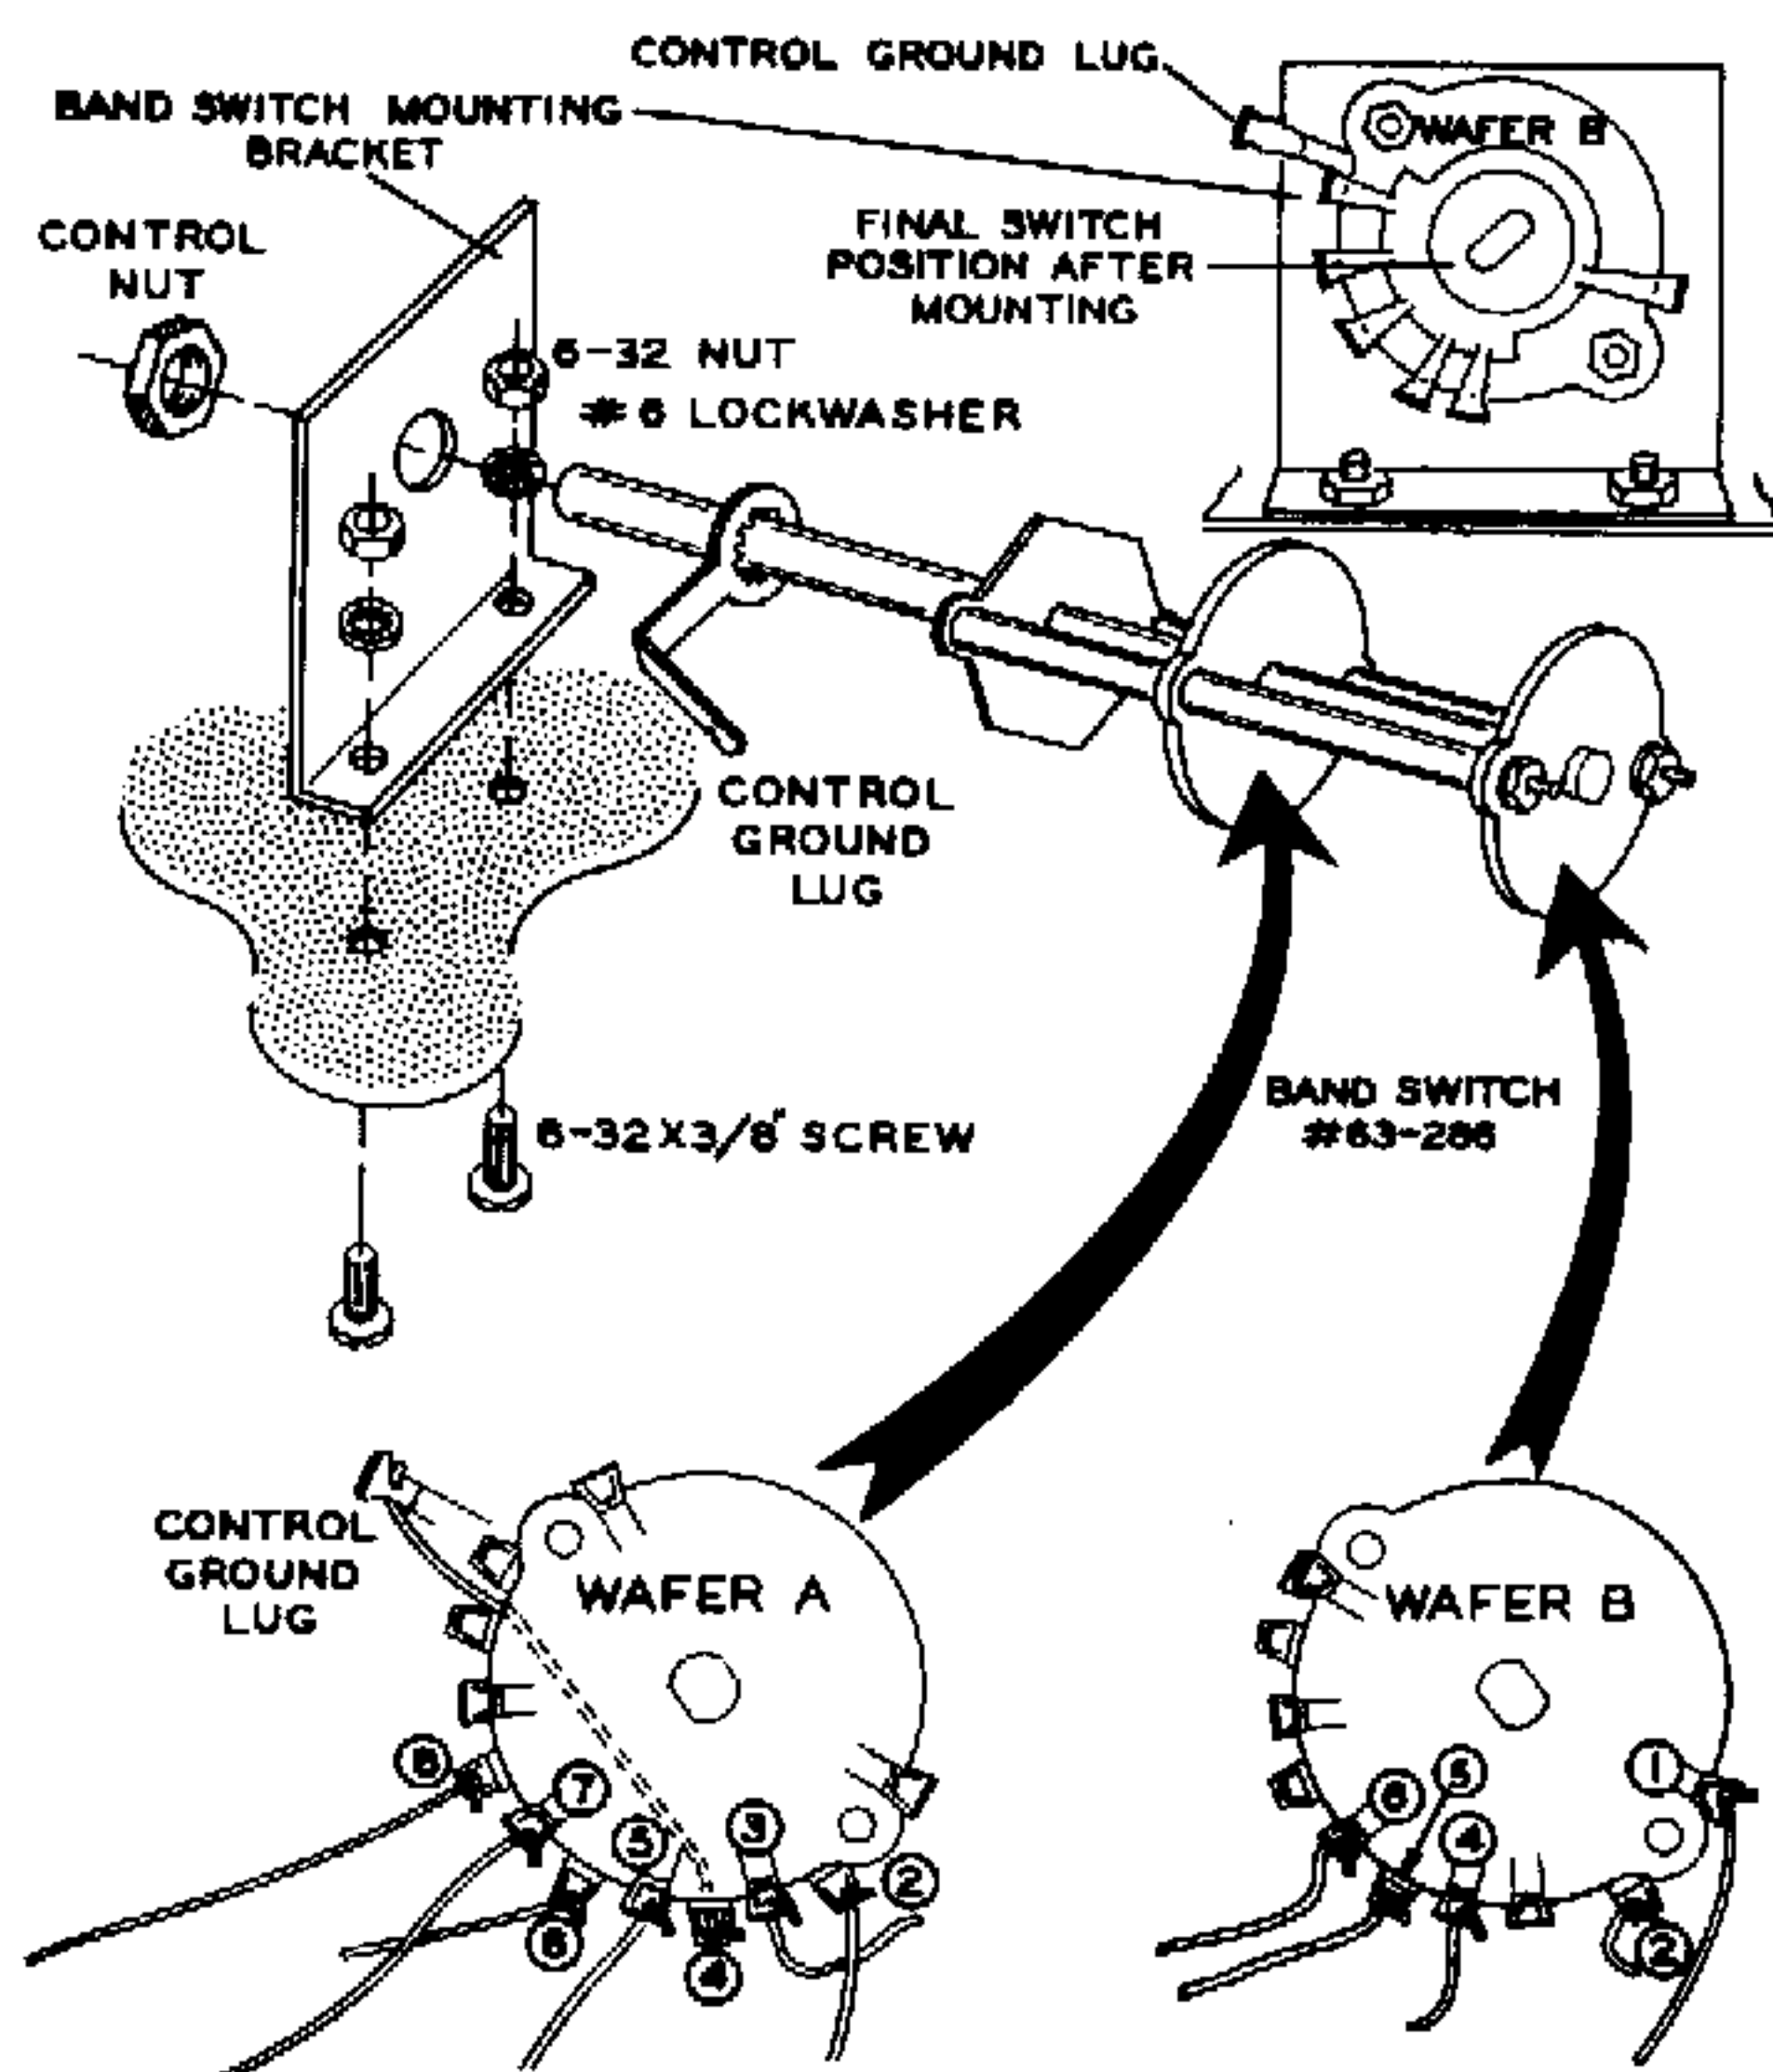

Figure 13
- () Locate the 4-position, 2-section rotary switch (#63-286) and position it as shown in Figure 13.
- (✓) Locate the BAND switch mounting bracket, and mount the BAND switch to the bracket, using a control ground lug, and control nut as shown in Figure 13. Position the switch and control ground lug as shown.
- (✓) Mount the BAND switch with the mounting bracket to the chassis using two 6-32 x 3/8" screws, #6 lockwashers, and 6-32 nuts as shown in Figure 13.